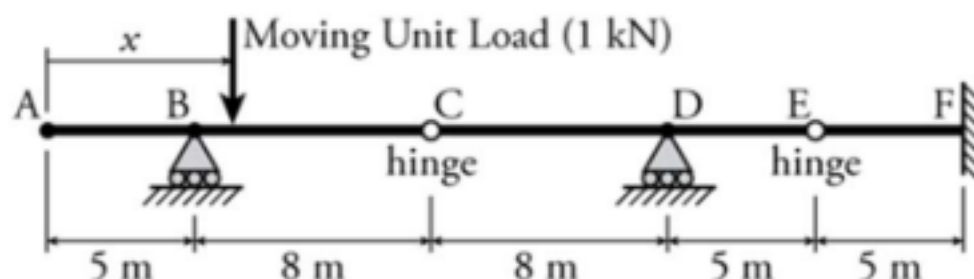

Fig.9
- a) By using Muller – Breslau's principle Construct influence line diagram for the beam as shown in Fig 9.